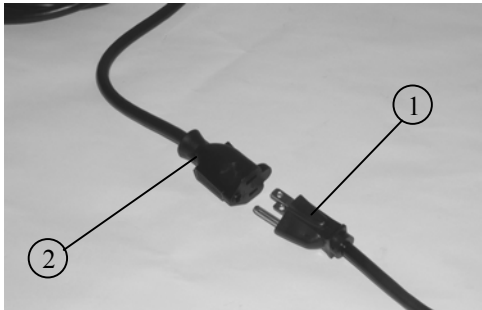

Figure 13
1. Connect device, 120-volt motor or controller power cord (Figure 13, item 1), into emergency stop receptacle cord (Figure 13, item 2).